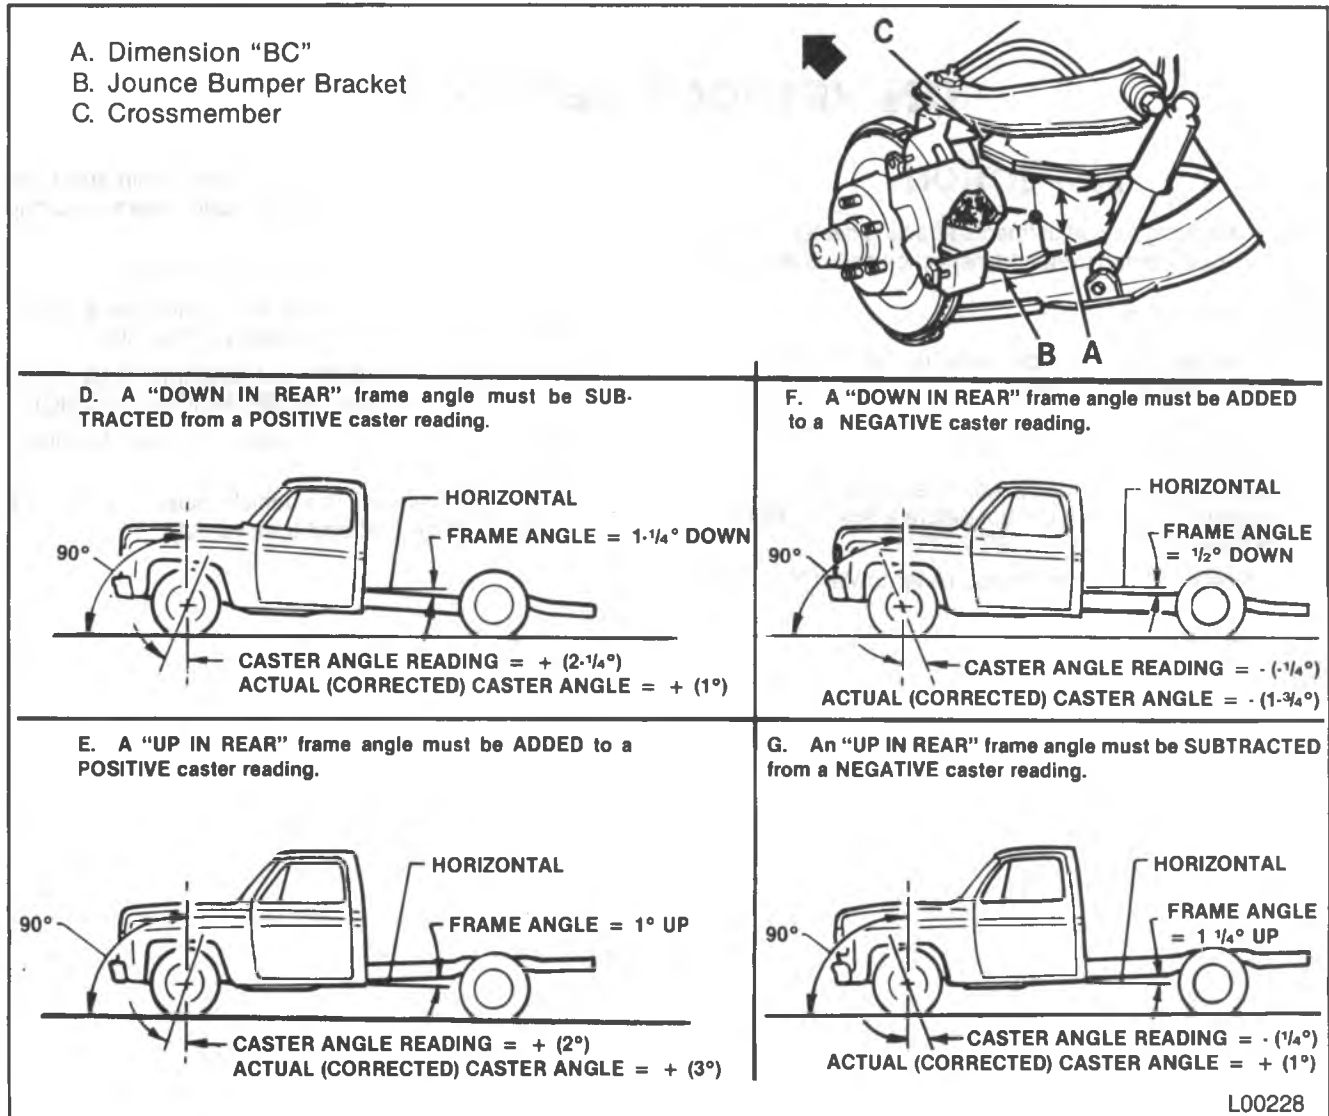

Figure 2 — Determining Caster
Inspect (Figure 2)
5. Dimension "BC" in (figure 2). If not within specifications, the correction must be made before adjusting caster.
How To Determine Caster (Figure 2 and 3)